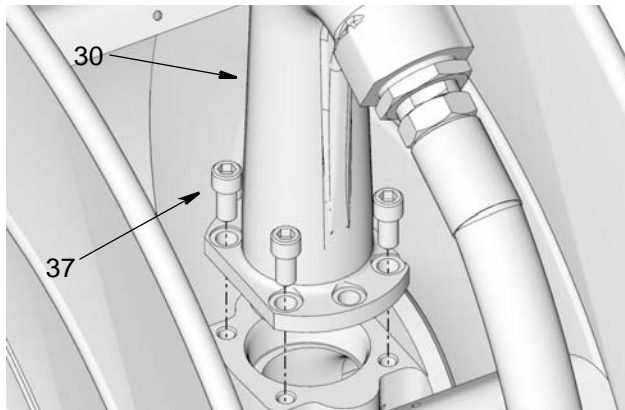

FIG. 51: Low Pressure Model (shown)
- e. Securely attach hose to outlet (30).
- f. Reinstall outlet (30) to swivel (3). Replace and tighten all bolts (37) securely. Torque bolts to 24 to 30 ft. pounds (32.54 to 40.67 N.m) (FIG. 51).
- Low Pressure Models (shown in FIG. 51) use 4 bolts (37).
- Medium Pressure Models (not shown) use 6 bolts (37).